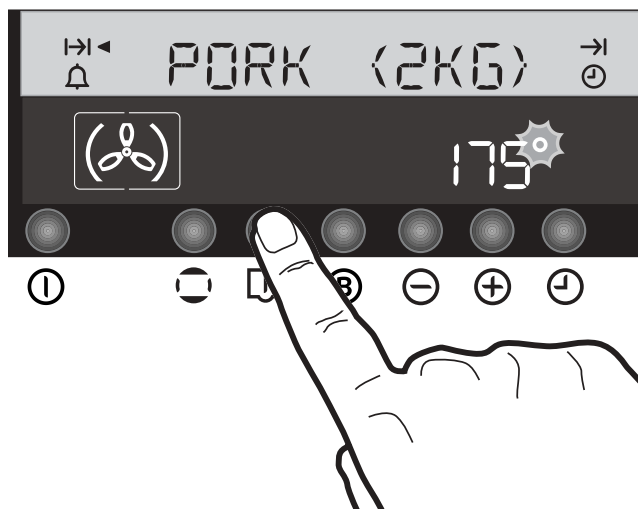

Fig. 23
2. Press the "Recipe Selection Function" button  : the upper section of the display will show the name of the recipe, and symbol  will come on near the "Cooking Duration" symbol . This means that a cooking duration is already set in the memory. The lower section will show the symbol of the pre-set cooking function and the pre-set cooking temperature. Symbol  will flash at the right hand of the temperature display. (Fig. 23);